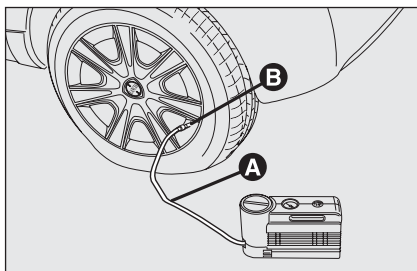

fig. 5
- Ensure that the handbrake is up. Undo the tyre valve cap, extract the inflation tube **A**-fig. 5 and tighten the ring nut **B** on the tyre valve;